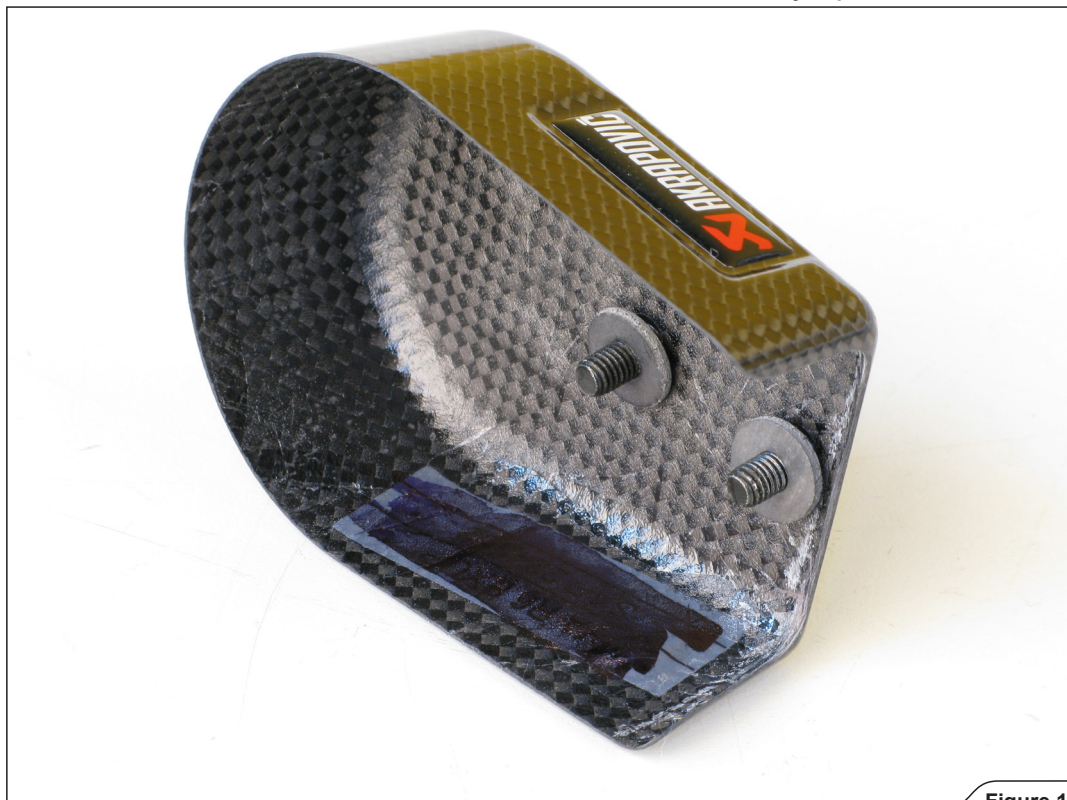

Figure 13
5. Assemble the carbon-fiber shield onto the exhaust valve, using Akrapovič M5 bolts and heat resistant washers from Akrapovič installation kit (Figure 13, 14).